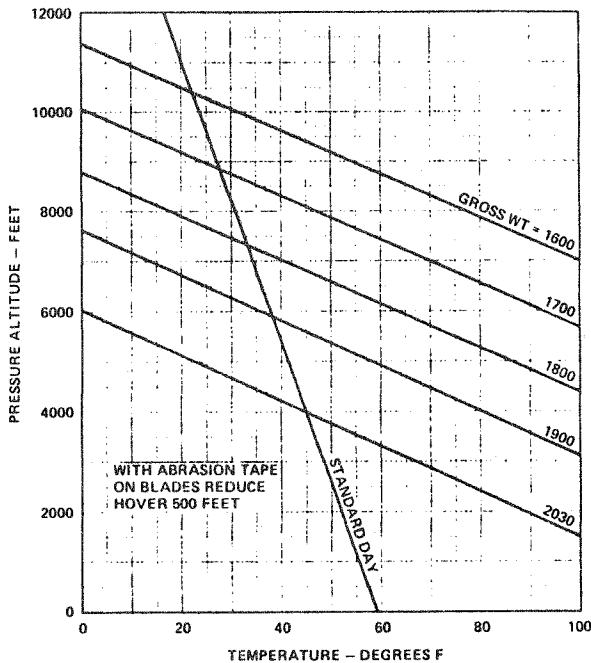

Figure 2. In Ground Effect Hover Ceiling with the 269A8245 Muffler / Resonator Versus Temperature (2-foot Skid Height, 3,200 rpm)
1. Hover ceiling with the 269A8245 muffler/resonator is shown in Figure 2 and 3.